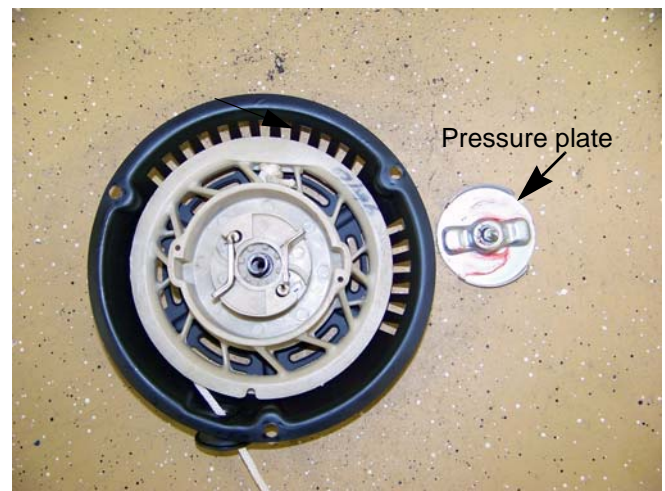

Figure 6.7
3. Remove the shoulder screw and pressure plate using a 10 mm wrench. See Figure 6.7.